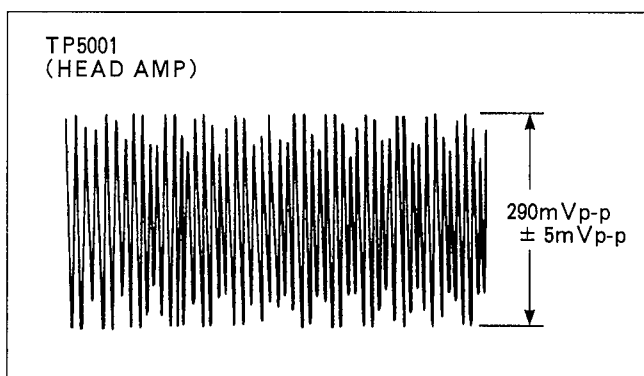

Figure E56
4. Adjust VR41003 so that the level becomes 290mVp-p  $\pm$  5mVp-p as shown in Figure E56.